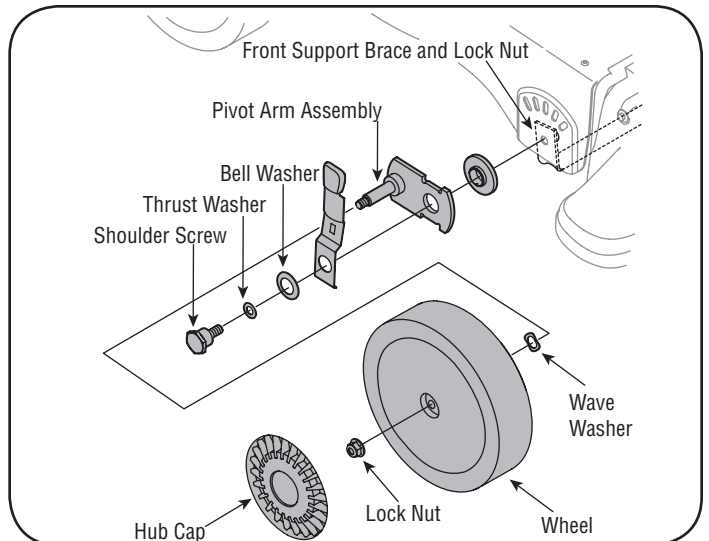

Figure 17
4. Remove the front hubcaps, flange lock nuts, front wheels, and wave washers that attach to the pivot arm assemblies. See Figure 17.